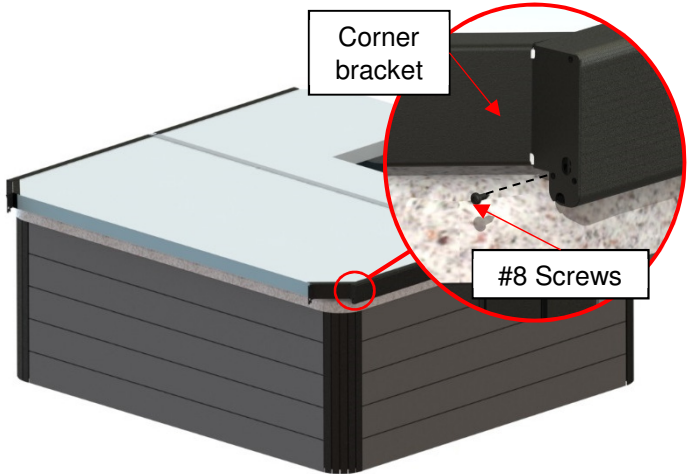

Figure 52
- 10) Insert the two corner brackets on the tapered parts of the front fibreglass panel. Use the provided Robertson sheet metal #8 x 3/4 in. screws on the inside holes on both sides of the cover. **The two remaining holes will be used later.** (Figure 52)